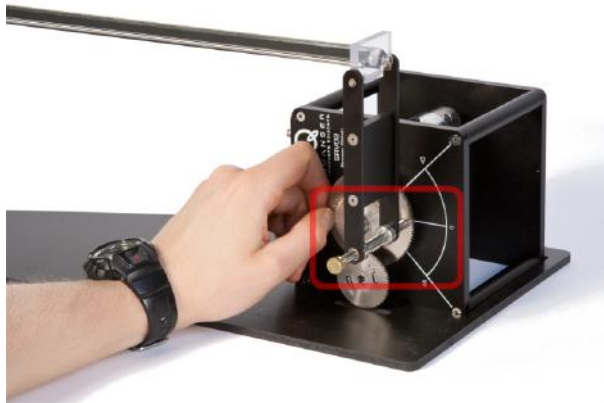

Figure 4.3: Attach Ball and Beam to Rotary Servo and rotate the gear to 0 degrees.
5. Tighten the coupling screw into the screw hole of the large 120-tooth load gear as depicted in Figure 4.3.
6. As illustrated in Figure 4.3, manually rotate the servo load gear to the 0 degree position. The coupling screw should be aligned with the 0 degree position on the servo.